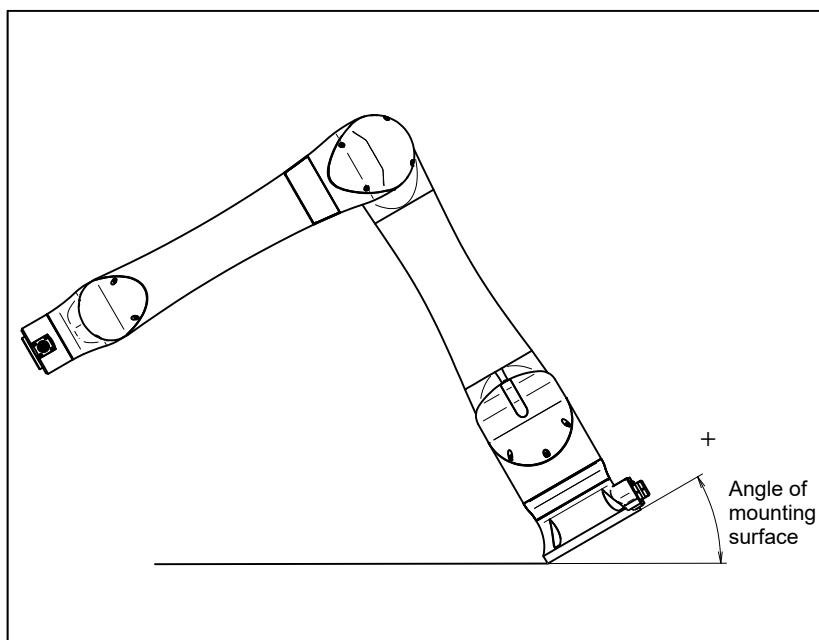

Fig. 1.2.1 (a) Mounting angle
- 7 Input the mount angle referring to Fig.1.2.1 (a).